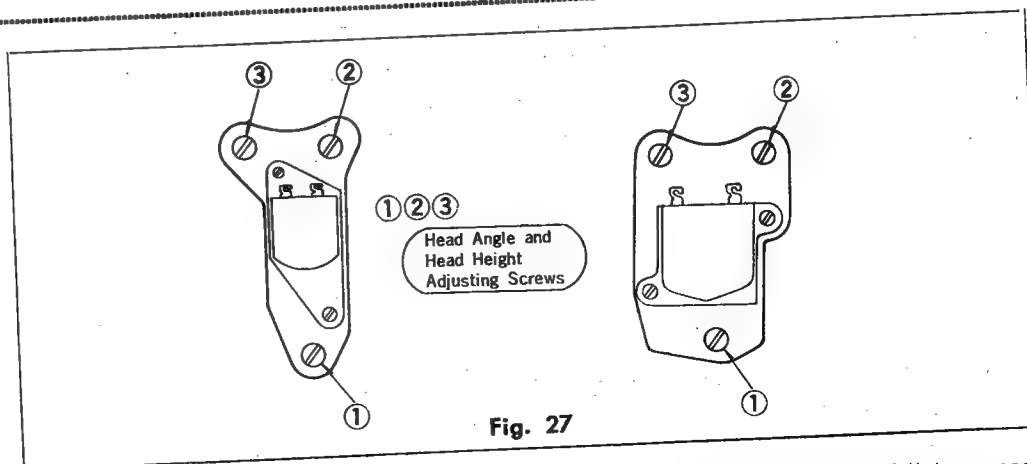

Fig. 27
place the tape recorder into the playback mode. Turn either of the Angle Adjustment Screws ((3) or (2) in Fig. 27) by a 1/4 turn, and make the adjustment so that the reading on the Vacuum Tube Voltmeter connected to the Line Out becomes maximum.